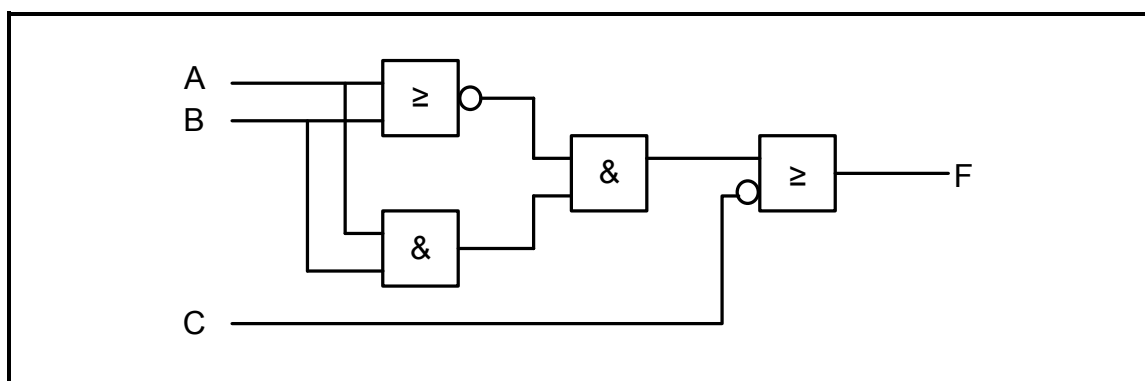

FIGURE 6.4: GATE NETWORK
6.4 Refer to FIGURE 6.4 below and determine output F.